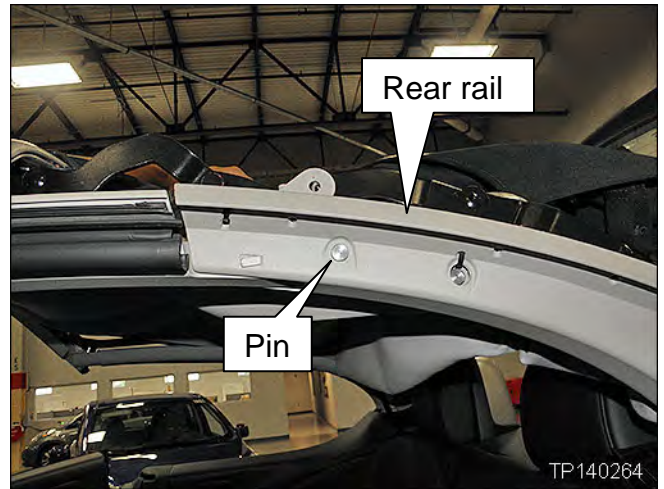

Figure 31
20. Remove the pin shown in Figure 31 as follows: